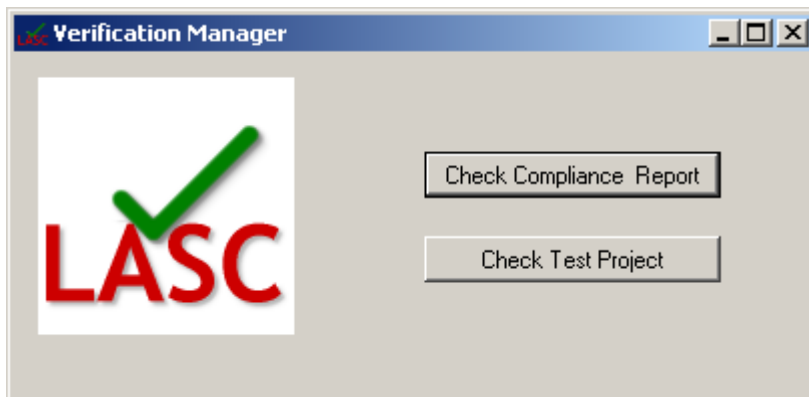

Figure 8. Verification manager main window
- Click Start → All Programs → 'LASCCompliance' → 'VerificationManager'. A small utility will appear as per figure 8